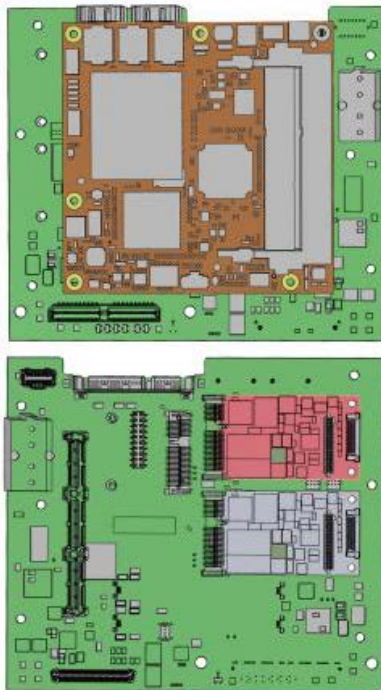

Figure 4
- Figure 4 - This rendering of the carrier board...
Add-on cards in the form of PCIe104 or Mini-PCIe I/O modules can be placed on the bottom of this carrier board for application-specific functionality beyond the Intel chipset features. On the top of the carrier, for the COM-Express CPU module itself, there is a standardized mating connector for COM-Express into which the mezzanine CPU plugs (Figure 4). This approach proves ideal for system upgrades since it easily facilitates pin-for-pin replacement to migrated to future COM-Express modules, such as from a 4th gen Core i7 to a 5th gen Core i7 (Broadwell), only requiring minor mechanical changes to the enclosure to optimize the LRU's thermal management.